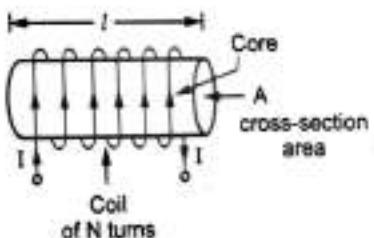

Fig. 1.4 Inductor
- Unit for inductance is Henry (H).
- The schematic symbol for an inductor is shown in the Fig. 1.4.